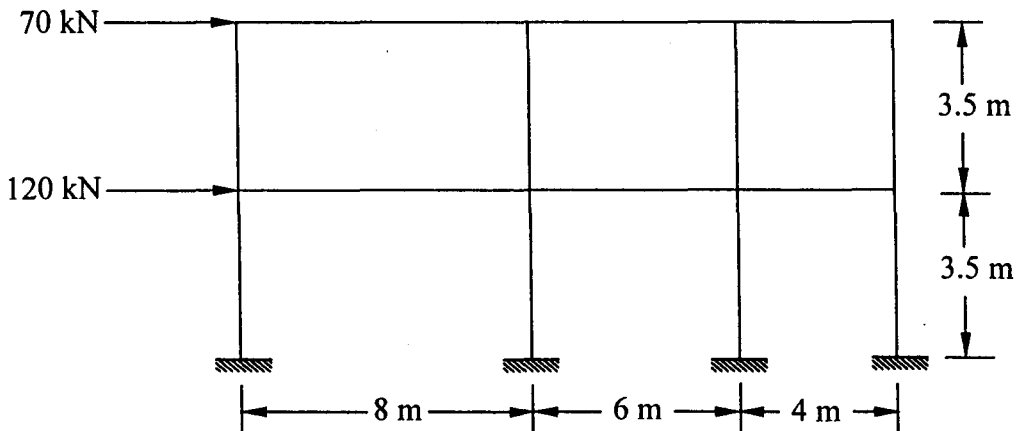

Fig. Q.7
Q.7 State the assumptions of portal method. Analysis the frame due to lateral load as shown in Fig. Q.7 using portal method.